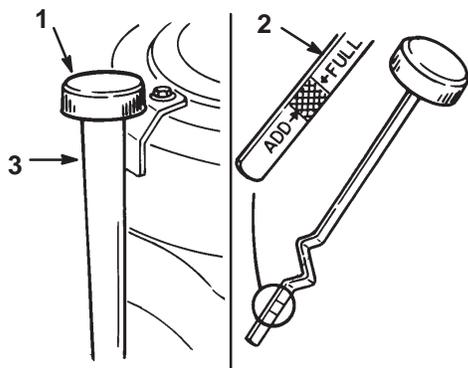

Figure 30
3. Clean around the oil dipstick (Fig. 30) so dirt cannot fall into the filler hole and damage the engine.
4. Unscrew the oil dipstick and wipe the metal end clean (Fig. 30).
- Screw the oil dipstick fully onto the filler tube (Fig. 30). Unscrew the dipstick again and look at the metal end. If oil level is low, slowly pour only enough oil into the filler tube to raise the level to the “FULL” mark.
- Slowly pour approximately 80% of the specified amount of oil into the filler tube (Fig. 30). Now check the oil level; refer to Checking Oil Level, page 30, steps 4–5.